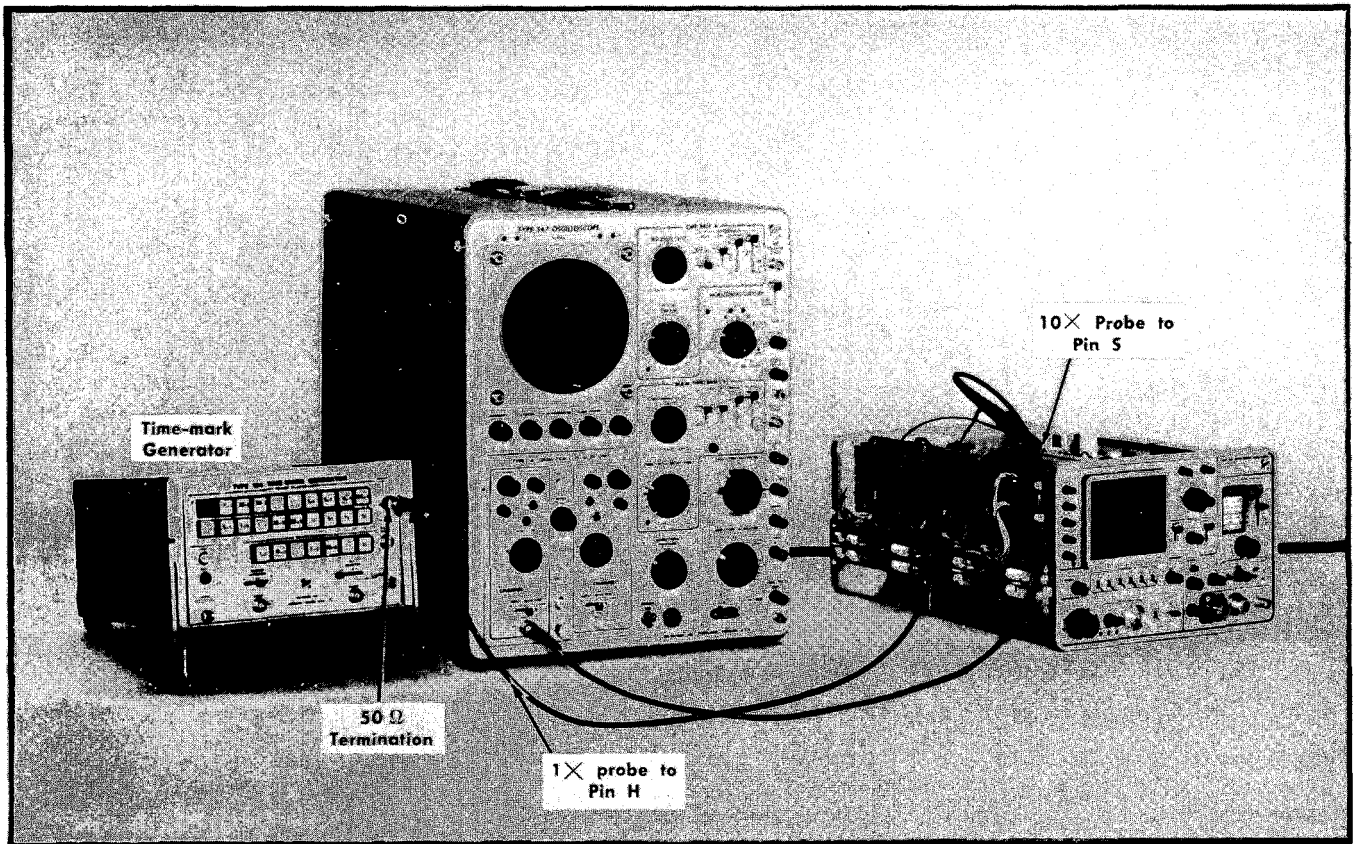

Fig. 6-14. Equipment setup to check and adjust sweep circuits, Steps 12 through 20.
- a. Equipment setup is given in Fig. 6-14,
- Test equipment setup is given in Fig. 6-14.